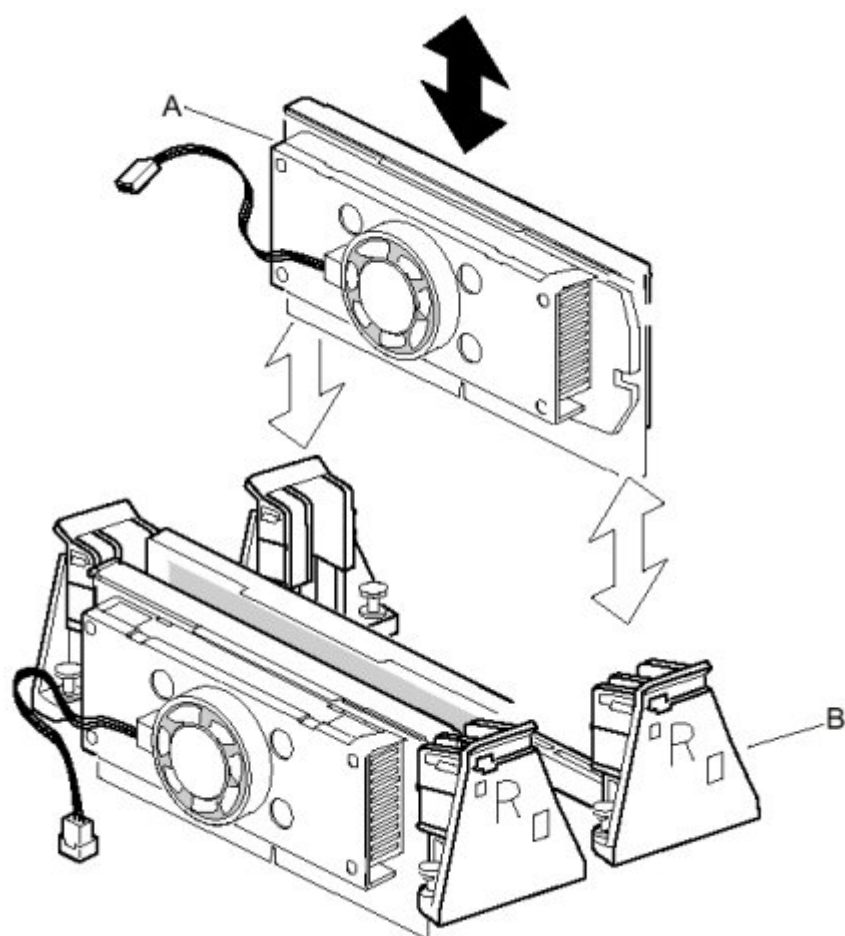

Figure 5
The design of the L440GX+ computer makes it a simple job to replace or upgrade the processors. To do so, please refer to **Figure 1** and **Figure 5** and follow the instructions below.
4. Carefully pull back the tab of the retention mechanism marked B in **Figure 5** with your left hand until the processor/Terminator card can be rotated out of the slot. With your right hand, grasp the processor/Terminator card on the side closest to the retention mechanism tab you are pulling back on, and rotate the one side of the processor/terminator card out of the slot. Once that side is free, you can pull the other side out of the slot.
Pentium III shown with Heatsink (*Marked A in **Figure 5***) fitted.